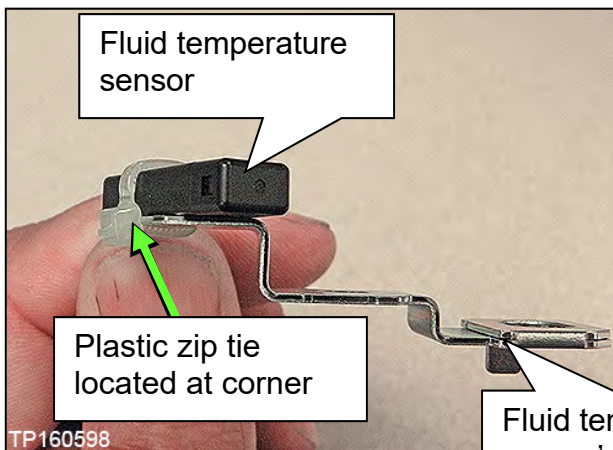
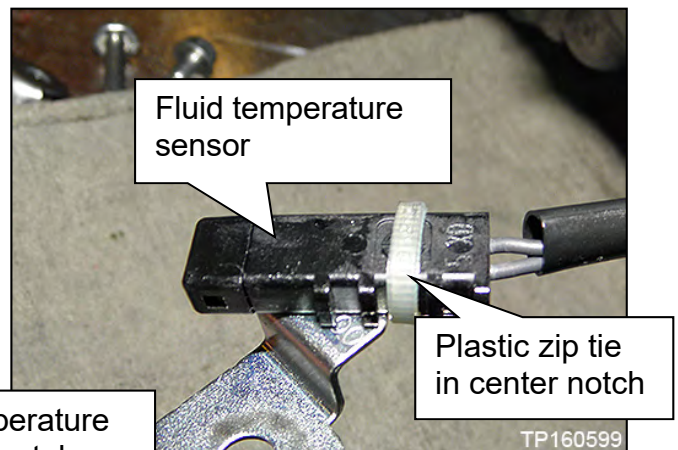

Figure 178
Figure 179
- a. Cut the old plastic zip tie with an appropriate tool to remove the fluid temperature sensor's metal bracket from the terminal harness assembly (Figure 178 and Figure 179).
- Locate the plastic zip tie at the center notch of three notches on the fluid temperature sensor (Figure 179).
- Tighten the plastic zip tie so that it is oriented as shown in Figure 179.